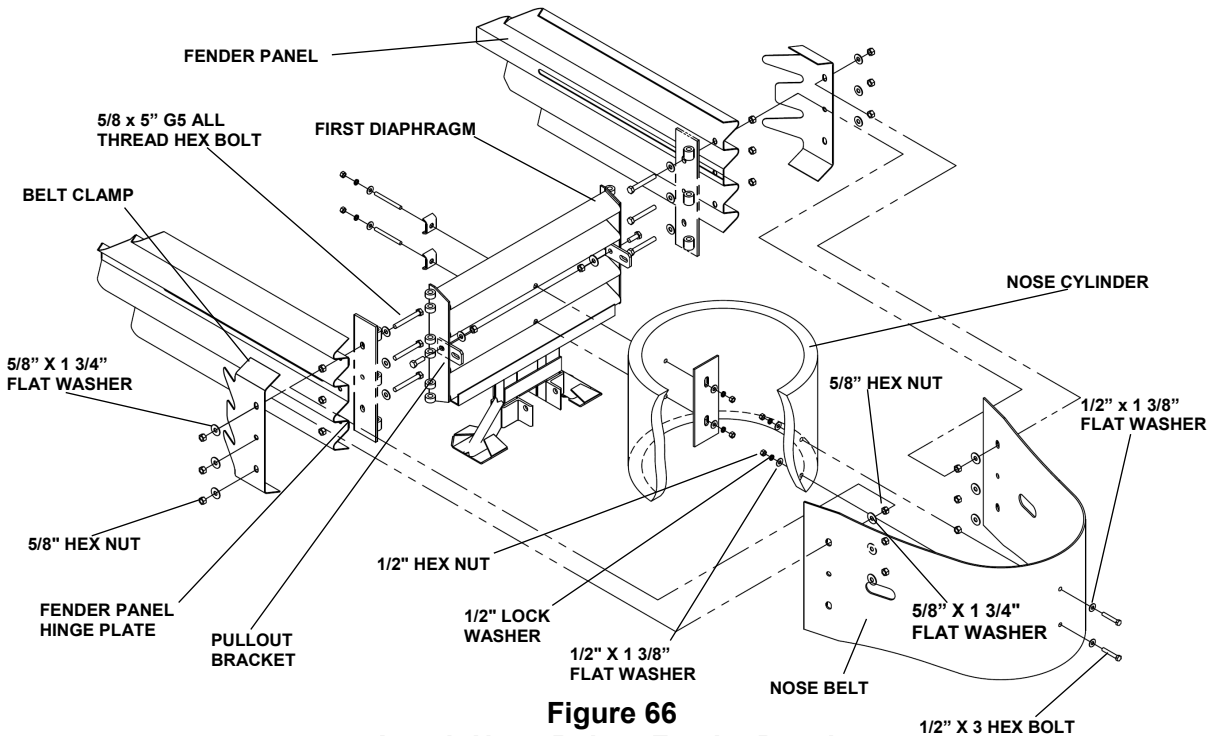

Figure 66
- Using 5/8" x 5" hex bolts, 5/8" x 1 3/4" flat washers, and 5/8" hex nuts, attach hinge plate to Fender Panel as shown in Figure 66 (three places per side).
- Thread second 5/8" nuts onto the assembled bolts. Be sure the faces of the nuts are flush with humps on Fender Panels (Figure 66). Slide second 5/8" x 1 3/4" flat washers onto bolts (three places per side).
Attach 3/8" [10 mm] grade 40 x 20' [6 m] chain to Pullout Brackets on Diaphragm No. 1 (Figure 66). Attach both ends of chain to a heavy vehicle (such as a 1 ton pickup truck).